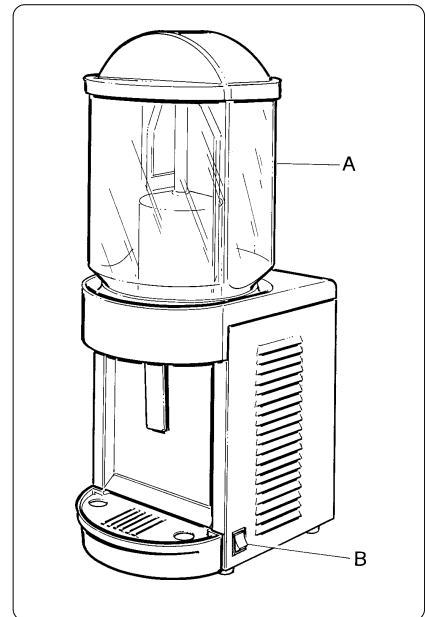

Fig. 1
- Pour the product into the bowl (A) and turn on the machine, using the switch (B) - fig. 1.